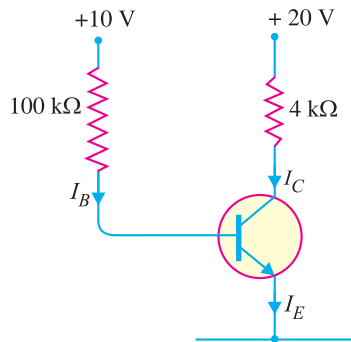

Fig. 9.48
2. Fig. 9.48 shows biasing with base resistor method. Determine the operating point. Assume the transistor to be of silicon and take $\beta = 100$.